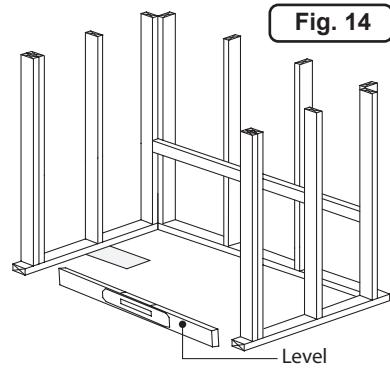

Fig. 14
1. Make sure framed-in alcove is of proper size per Jacuzzi dimensions, square, and plumb; check floor for levelness (Figure 14). Rough-in should be kept to a minimum until the unit is on the job site. Measurements may vary +0 or - $\frac{1}{4}$ " from original specifications.